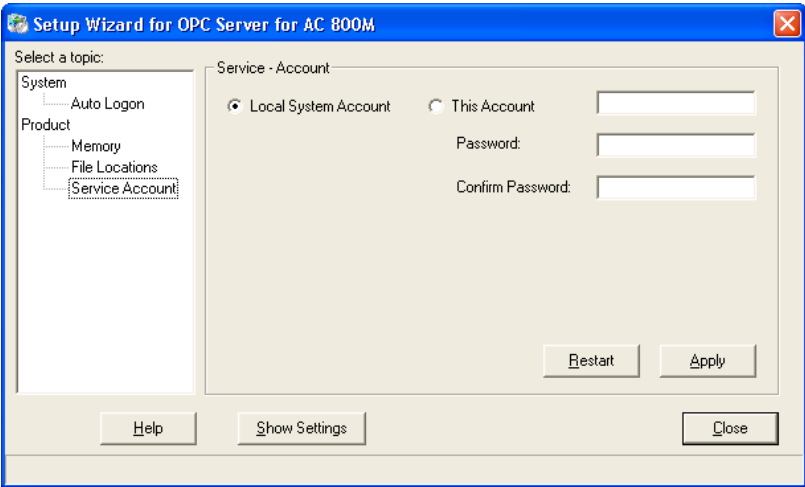

Figure 76. The Service Account Topic for OPC server.
- If *Local System Account* (see Figure 76) has been selected previously in the Setup Wizard; only members of MyTeam group should login to the PC machine, or the OPC Server will be interrupted.
- If *This Account* (see Figure 76) has been selected previously in the Setup Wizard; any user including an operator can login to the PC machine without interrupting the OPC Server traffic.